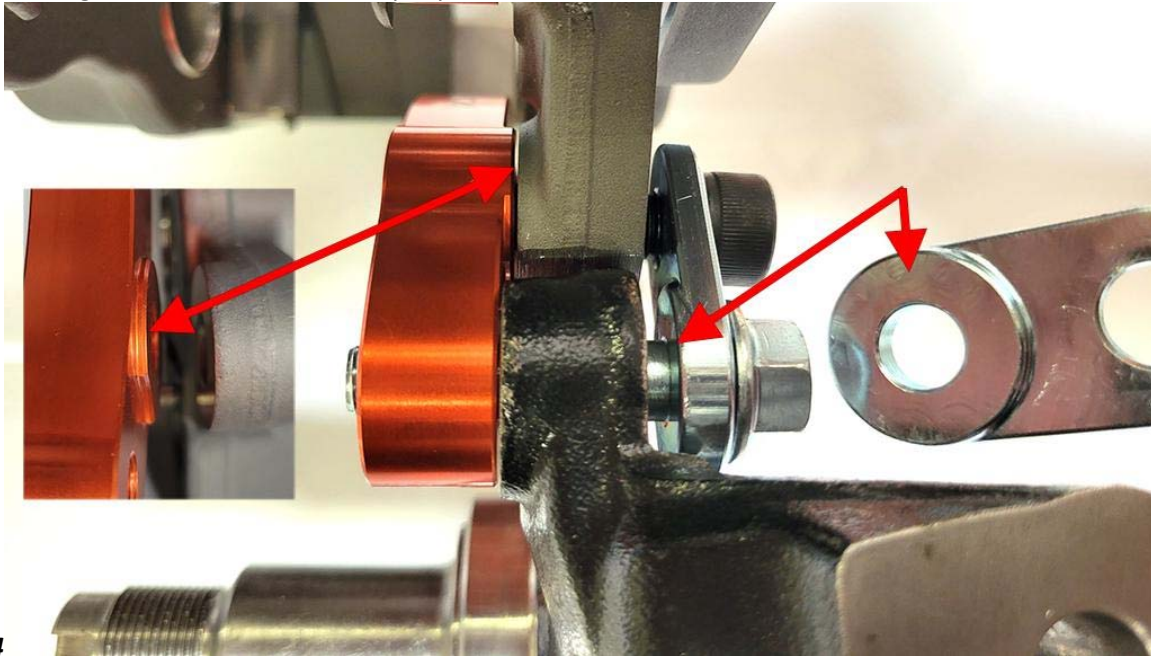

Fig 4
9. Install bracket with braces as shown in **Fig 4** but do not install caliper yet. Orient raised portion of silver brace as shown. SUPERMIATA on orange bracket faces outward. Raised portion of bracket faces caliper. Snug fasteners but do not torque yet